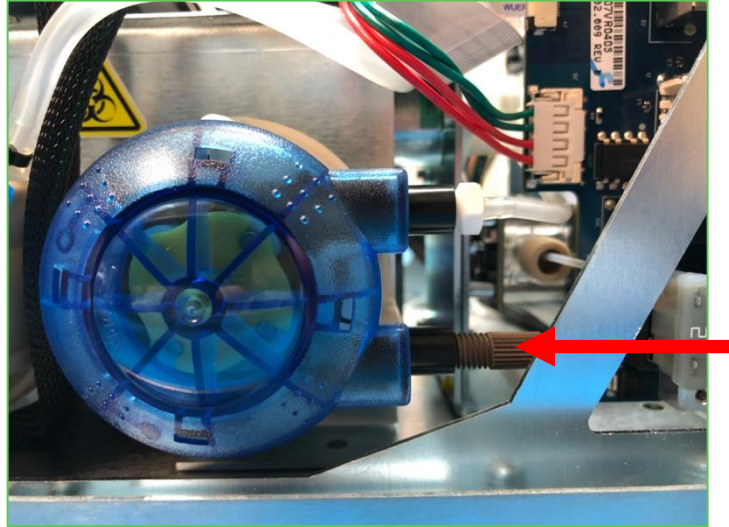

Figure 4
9. Remove the old Primary Pump tubing assembly. Be careful not to damage the roller as the old tubing is removed. (Figure 4)